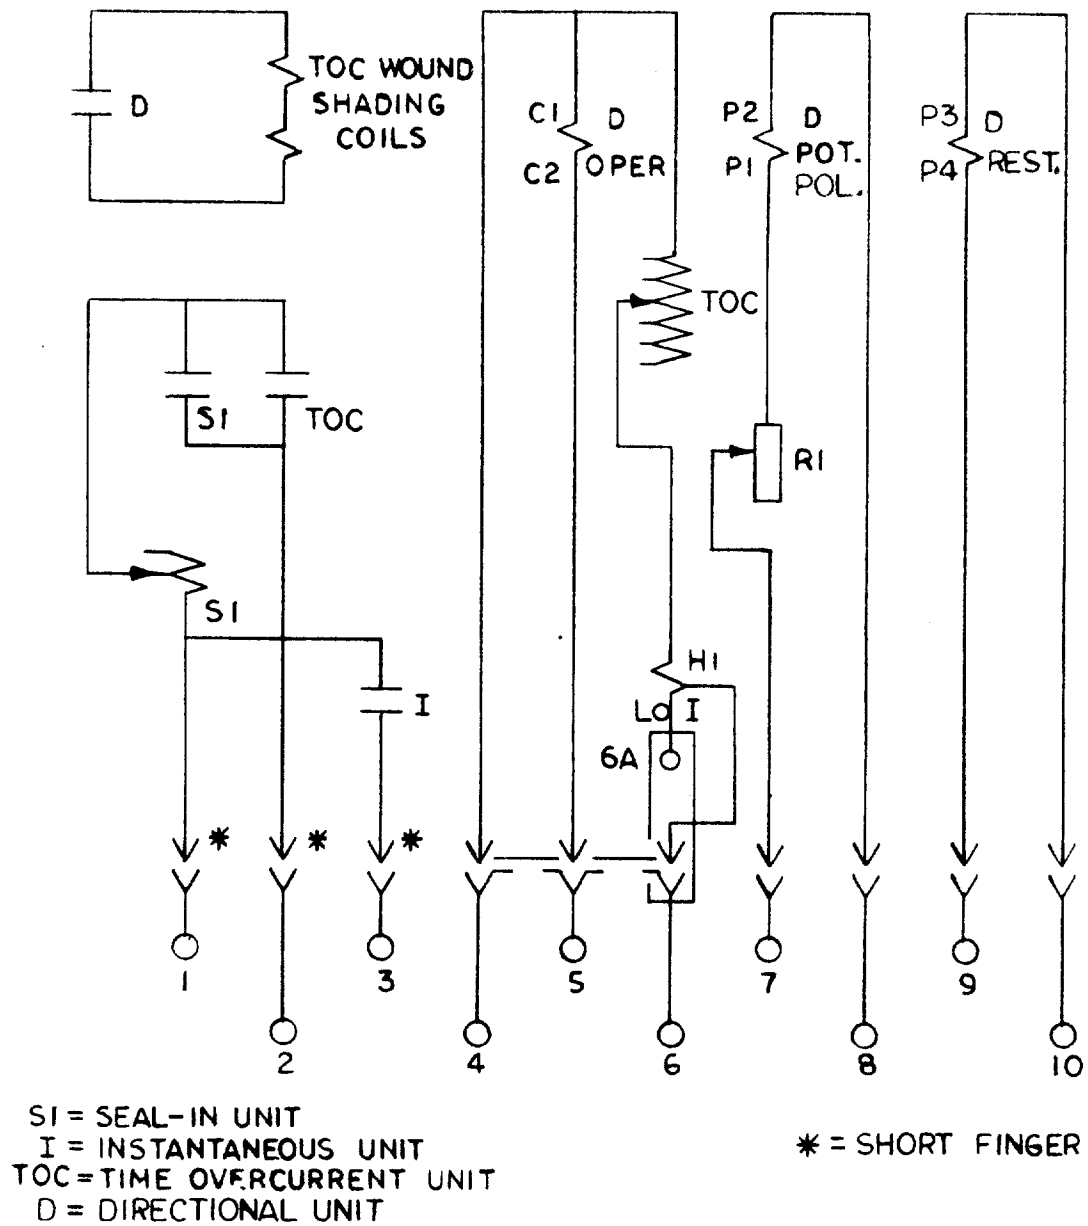

Figure 6 (0257A6166) Internal Connections for IBCV51M(-)Y1A and IBCV53M(-)Y1A Relays (Front View)
- Figure 6 (0257A6166) Internal Connections for IBCV51M(-)Y1A and IBCV53M(-)Y1A Relays (Front View)